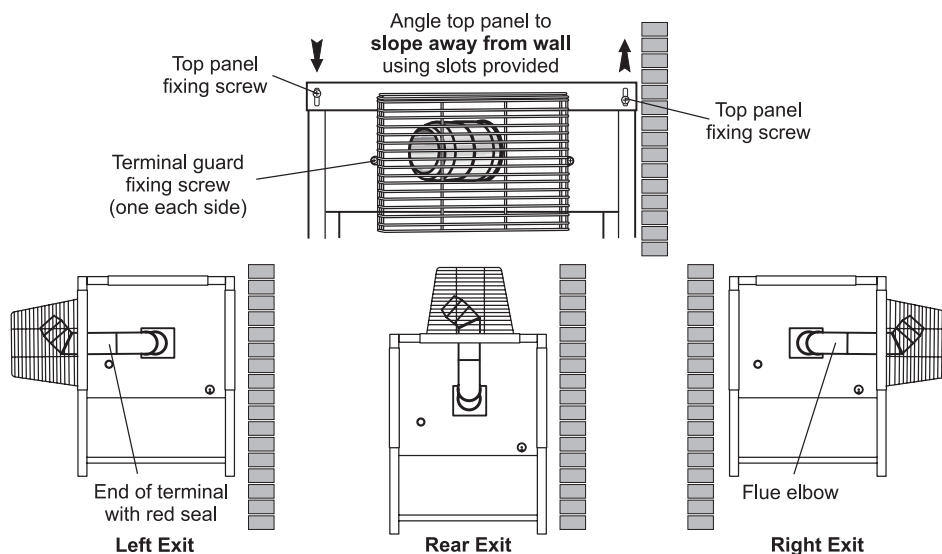

Figure 4-1: Standard low level flue provided
11. The top panel of the casing has been designed so that it may be fitted to create a slight slope away from the side positioned against the wall. To tilt the top panel, loosen the four top panel casing screws and push down on the side furthest from the wall. Tighten the screws. See Figure 4-1.